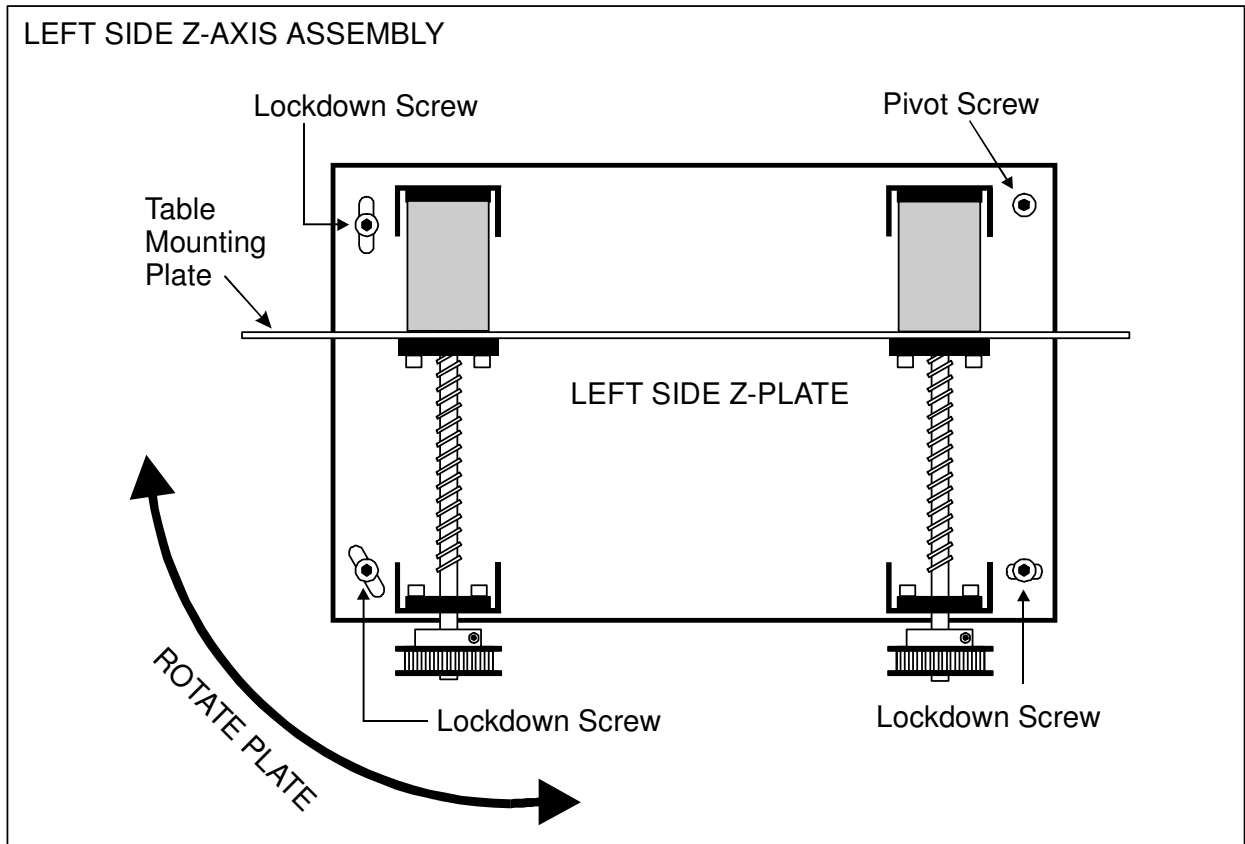

FIGURE 4
Move the arm to Position 2. Using the Focus Tool, observe whether or not you will need to raise or lower the table. To adjust the front left side of the Table up or down, rotate the entire Left Side Z-Plate, by hand, by loosening the (3) Lockdown Screws and pivoting the entire Plate on the Pivot Screw (figure 4). Observe the Focus Tool on the Table at the same time. Once obtaining focus in the lower left side of the Table, using the Focus Tool and rotating the Plate, tighten down the Lockdown Screws. Repeat steps 1 and 2 of this procedure until Position 1 and Position 2 are exactly at the same focusing height.